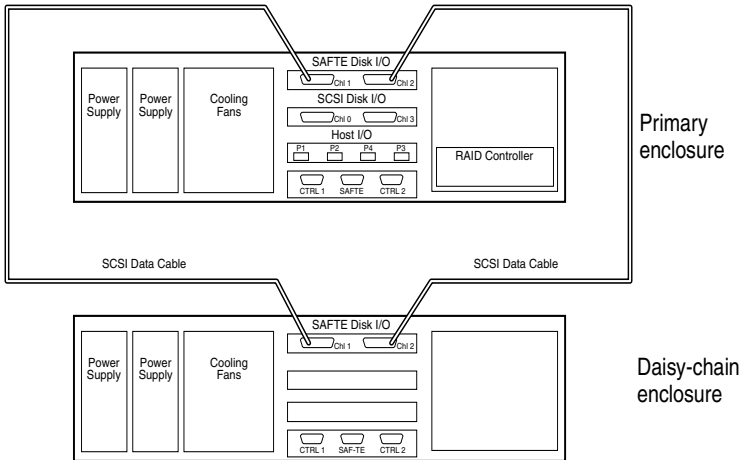

Figure C-15 Enclosure Cabling Diagram
- 6 Connect the SCSI data cables from the DuraStor 7320SS disk I/O card to the daisy-chain enclosures' SAF-TE disk I/O card as shown in Figure C-15.
- 11 Connect the SCSI data cables from the DuraStor 7320SS to the two daisy-chain enclosures as shown in Figure C-15 on page C-13.